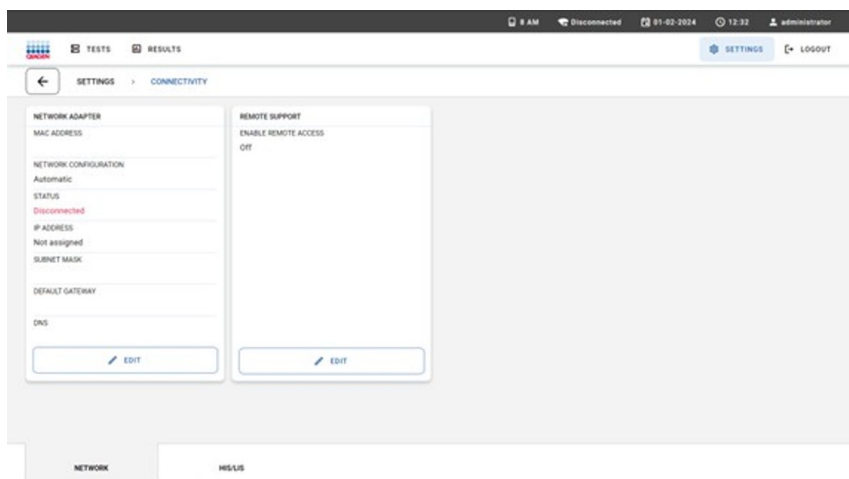

Figure 80. Connectivity settings with remote support setting.
3. Press the **EDIT** button in the **REMOTE SUPPORT** panel (Figure 80).